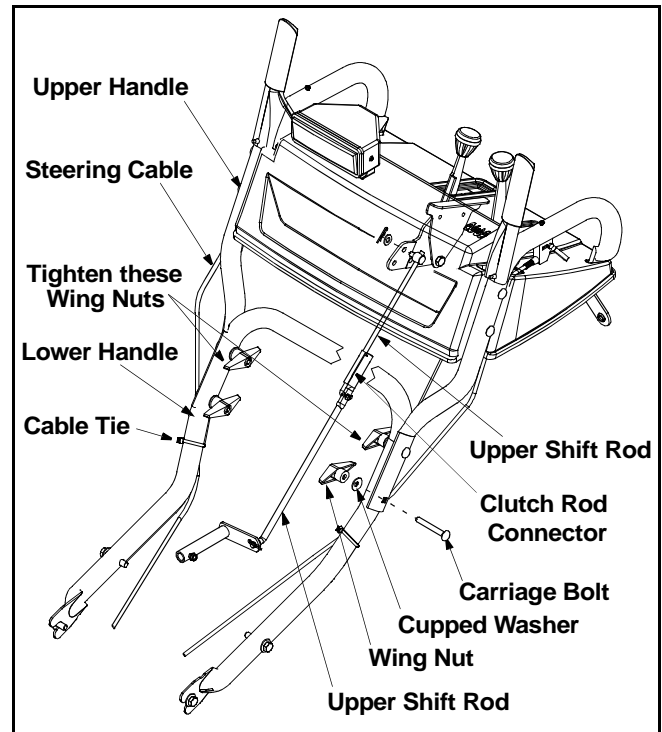

Figure 2
- Remove the **lower** plastic wing nut, cupped washer and carriage bolt from each side of the lower handle. See Figure 2.
shift rod. Tap the connector until it **locks** over the lower shift rod. See Figure 2.